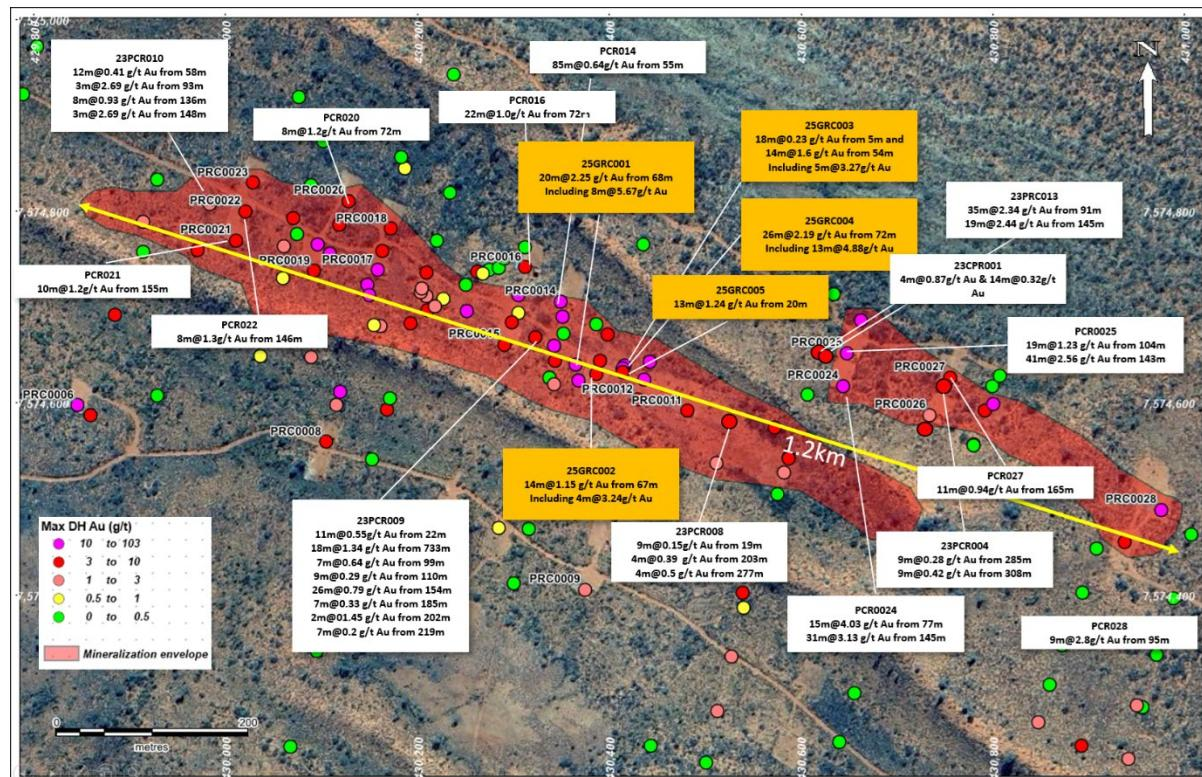

Figure 1: Five assay results from Phase I drilling campaign at Grace Gold-Copper Project
**Paterson Resources Limited (“Paterson” or “Company”) (ASX: PSL)** is pleased to advise that five assay results from Phase I of the comprehensive 8,500m Reverse Circulation (RC) drilling campaign demonstrated shallow zones of wide gold mineralisation along a 1.3km strike event (Figure 1 & Appendix 1).